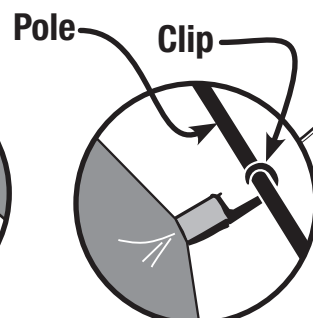

Fig. 5
- Attach clips along the edges of tent to body poles. (Fig. 5)